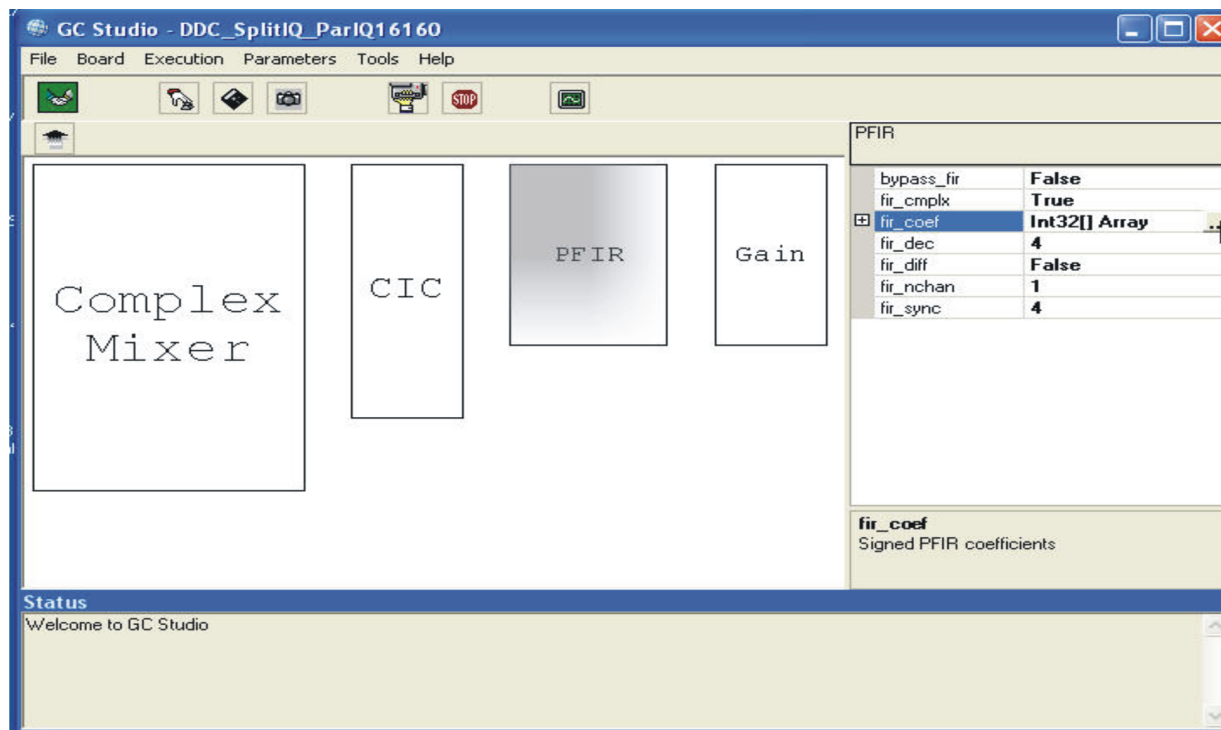
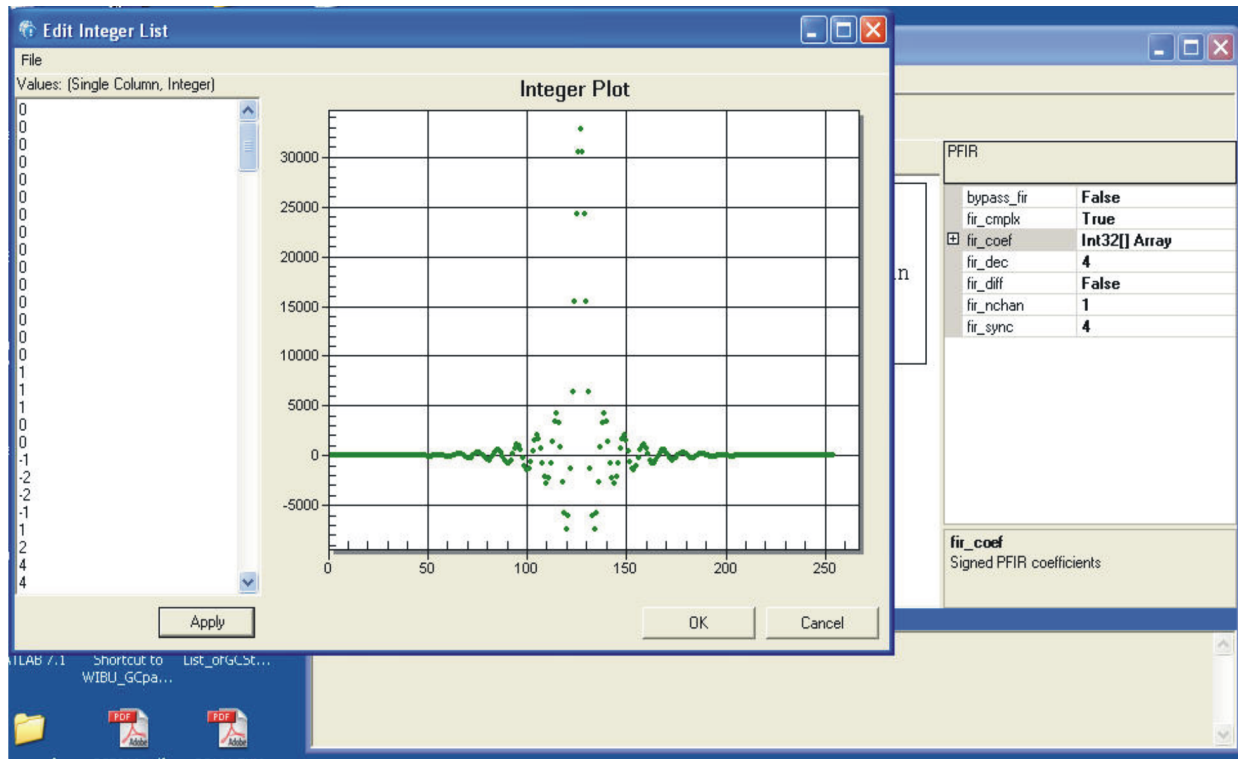

Figure 42. GC Studio DDC — Selecting PFIR Coefficients
Figure 43. GC Studio DDC — PFIR Coefficient Entry
- Fir_coef – this variable allows a view of the PFIR coefficients, or a method to load the coefficients from a single column of 16-bit 2's complement coefficients. (See Figure 42 and Figure 43)
This screen is selected from clicking on the fir_coef variable on the right side as shown in Figure 42.
The PFIR coefficients are viewed as an Impulse Response (i.e. Time Series) as shown in Figure 43. It is important to check that the scaling fits the 16 bit range -32768 to 32767. The number of taps needs to match the desired PFIR configuration mode (i.e. check the .ANL file).